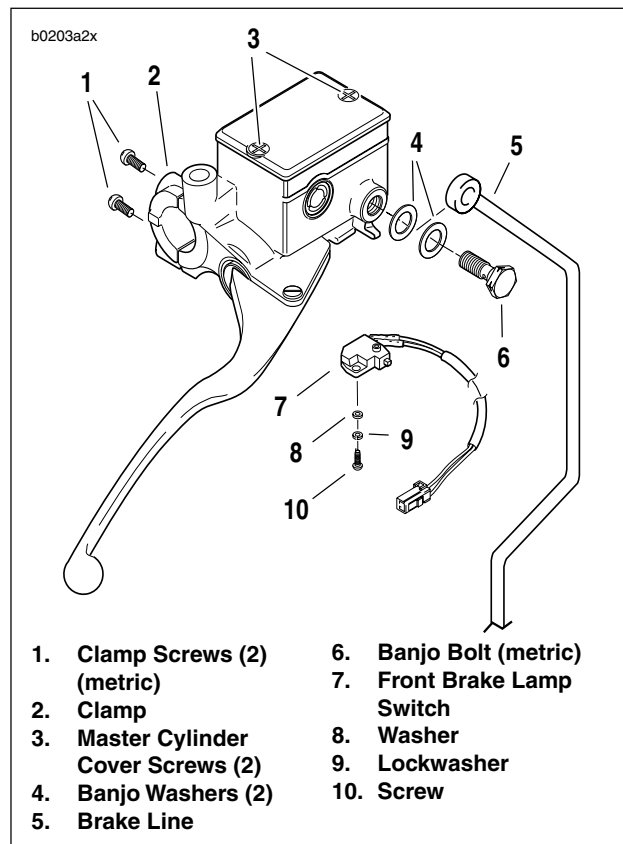

Figure 2-21. Front Master Cylinder
2. See Figure 2-21. Remove banjo bolt (6) (metric) and two banjo washers (4) to disconnect brake line (5) from master cylinder. Discard banjo washers.
3. Remove screw (10), lockwasher (9) and washer (8) to detach brake lamp switch (7).
1. See Figure 2-21. Fasten master cylinder to handlebar by installing clamp (2) and screws (1) (metric). Tighten to 80-90 in-lbs (9-10 Nm).